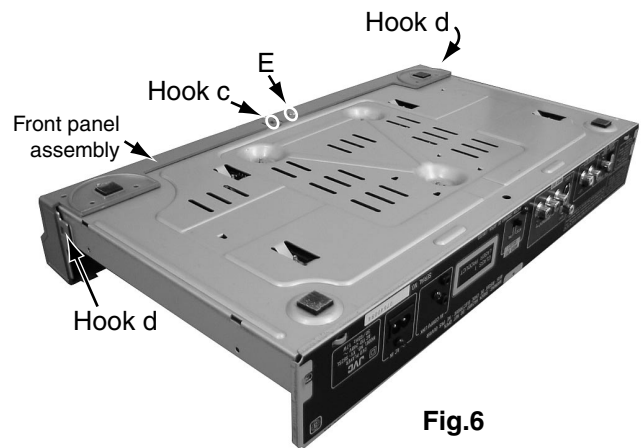

Fig.6
■ **Removing the front panel assembly (see Fig.6,7)**